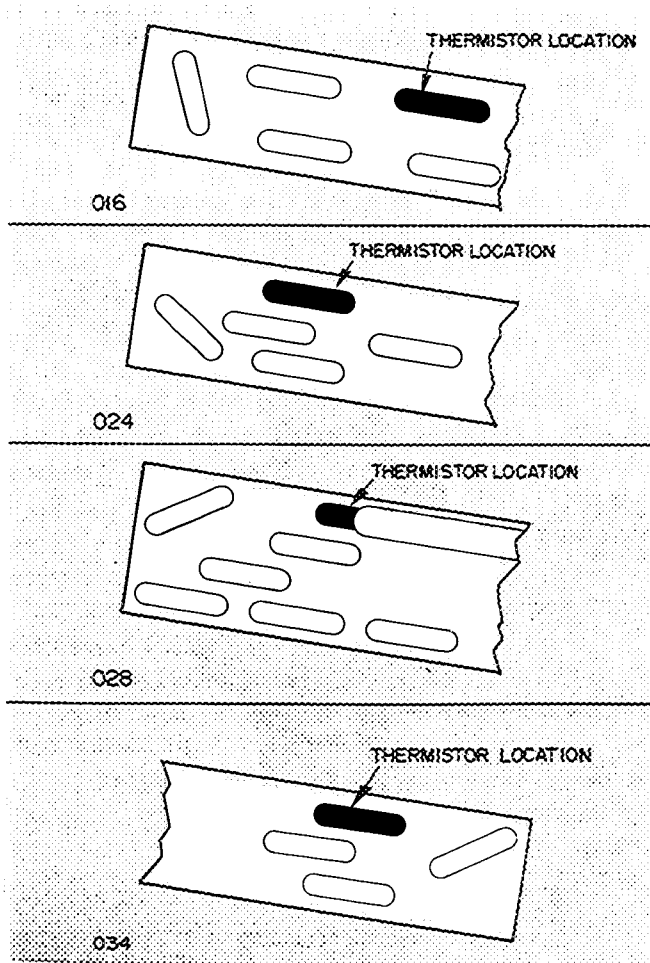

**Fig. 27 — Compressor Capacity Control Unloader**
**Compressor Capacity Control Unloaders** (Fig. 27) on compressor no. 1 are suction-pressure actuated to load or unload compressor at factory settings indicated in Table 1. If necessary, they may be field adjusted or reset as follows: